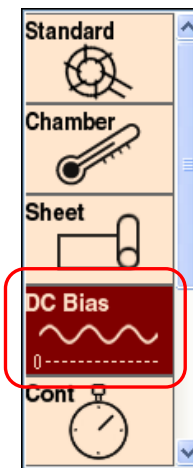

Fig. 4-18 Mode menu
- (1) Press  to display the Mode menu.
- (2) Position an edit cursor on DC Bias and press  to determine the selection of the DC Bias measuring mode. (See Fig. 4-18)